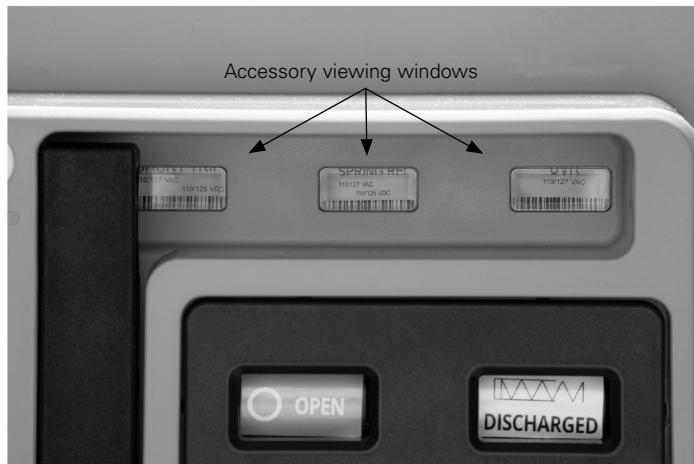

Figure 80. Accessory viewing windows
This test procedure is based on the assumption that the breaker is equipped with optional shunt trip (ST), undervoltage release (UVR), and/or spring release (SR) accessories (**Figure 80**). If one accessory is missing, substitute the manual button or manual charge handle to replace the accessory's function. If equipped with a motor operator, the voltage is listed on the breaker nameplate.